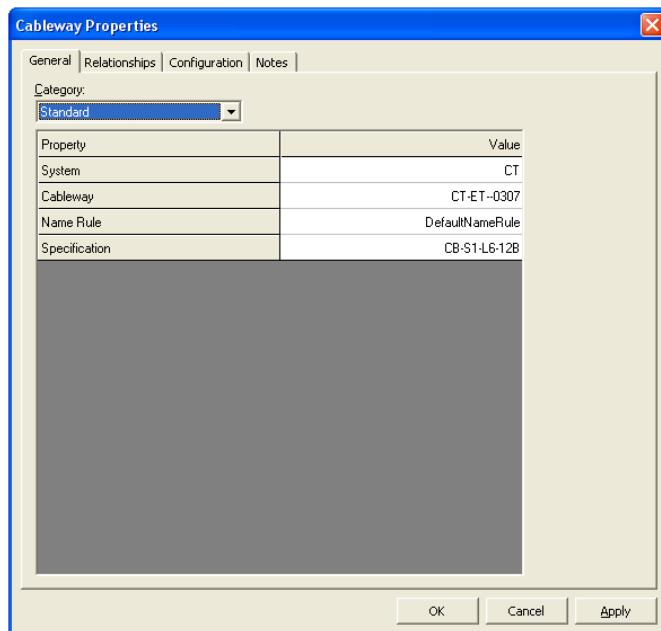

Figure 48: Cableway Properties Dialog Box
4. Select **CB-S1-L6-12B** from the **Specification** drop-down list on the **Cableway Properties** dialog box, as shown in Figure 48.